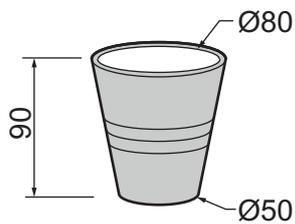

Fig. 12.5
- (iii) Use sketches and notes to show a design for an attachment that could fit over either of the sides at positions **C** to hold the plastic cup shown in Fig. 12.5. The attachment must be removable. Name all materials and fittings used.